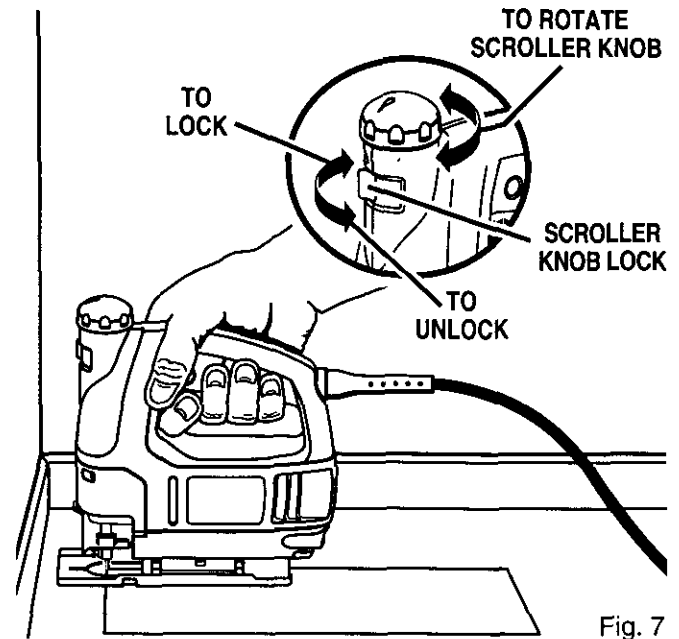

Fig. 7
See Figure 7.
Your saw is equipped with a thumb operated lock for locking the knob in (4) positions, 90° apart. Lock and unlock the scroller mechanism of your saw by rotating the lock, located on the front of your saw, in the direction of the arrows as shown in Figure 7. Locking the knob as shown in Figure 7 permits cuts to be made close to walls and corners. For scroll cutting, the lock must be in the unlocked position for free rotation of the saw bar.